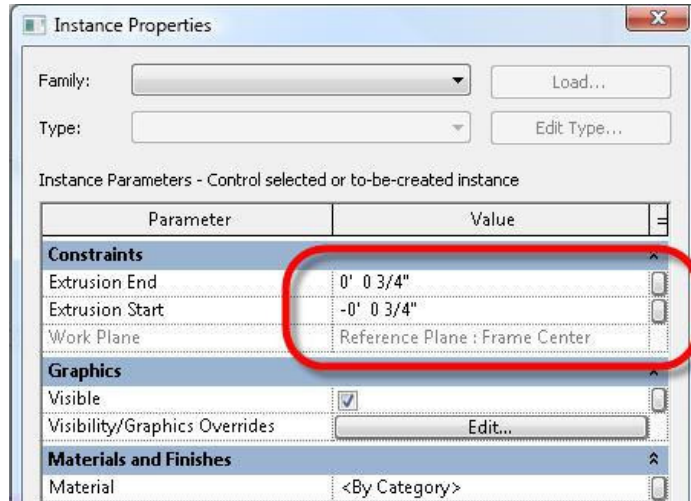

Figure 40. Establishing the muntin thickness so that it will be symmetrical about the Frame Center Work Plane.
8. Click Extrusion Properties from the Create Extrusion ribbon. In the Instance Properties dialog, set the Extrusion Start value to $-0'-0\frac{3}{4}"$ and the Extrusion End value to $0'-0\frac{3}{4}"$ as shown in Figure 40. This will cause the muntins to be centered on the Work Plane. Click OK to return to the Family Editor.